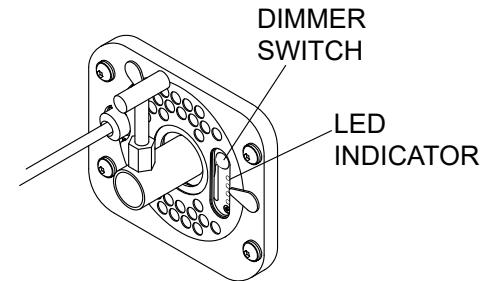

Figure 21. Dimming the Lamps
1. Press the dimmer switch to change the brightness of the lamp (Figure 21). The lamp starts at 800 W.